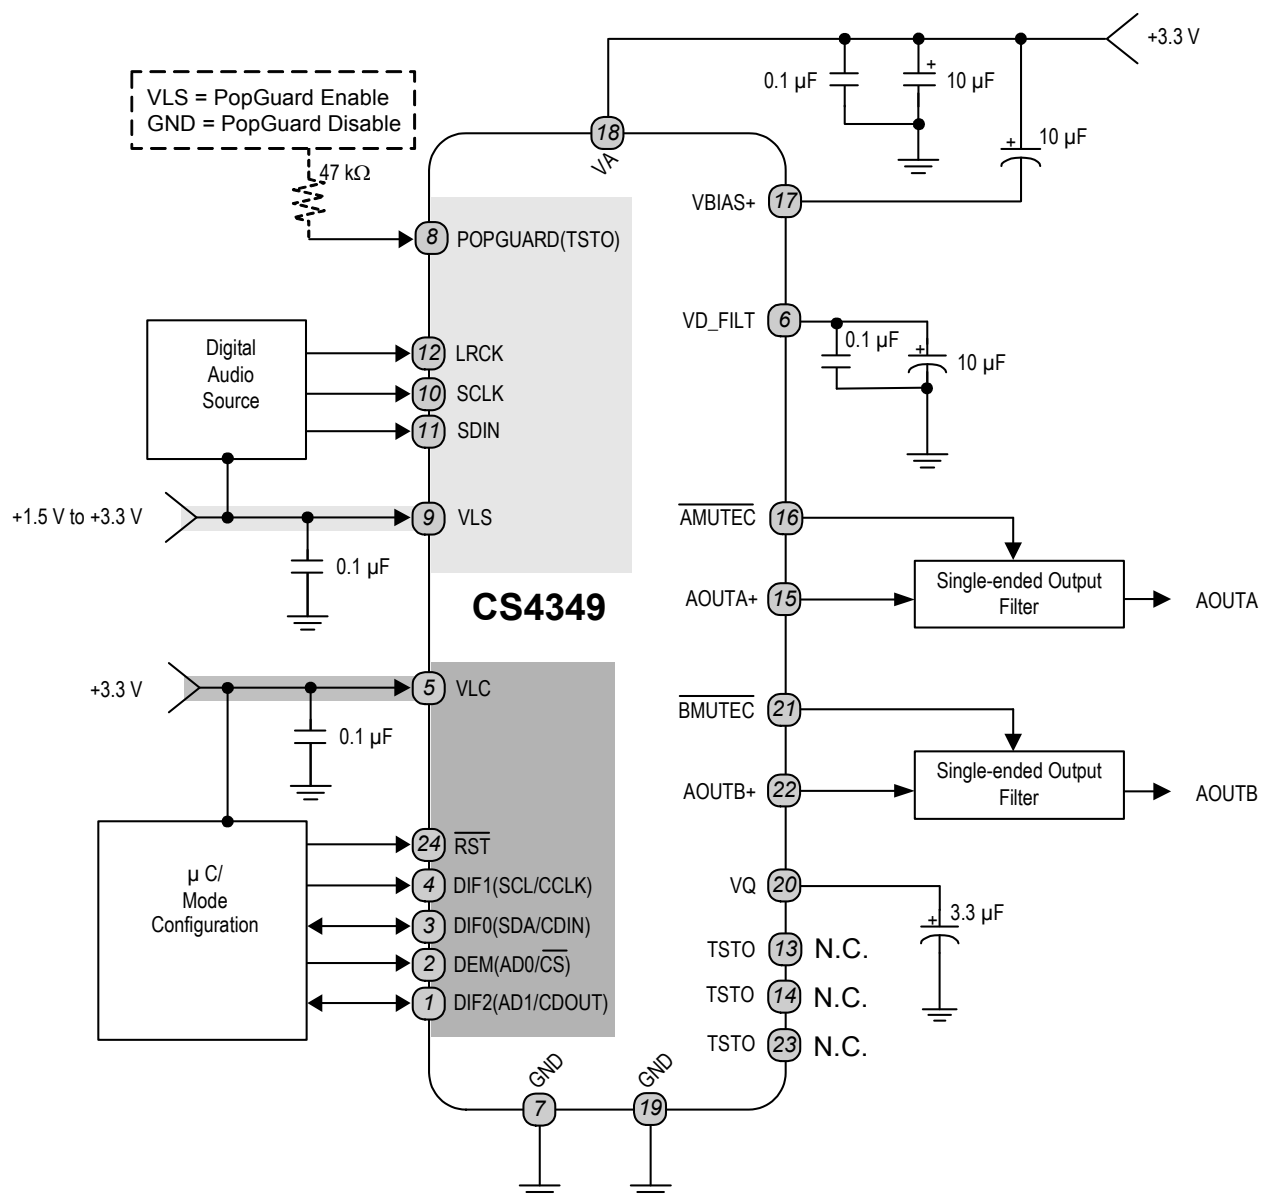

Figure 10. Typical Connection Diagram
16. Valid with the recommended capacitor values on VFILT, VQ, and VBIAS+ as shown in the typical connection diagram in Figure 10.
As with any high-resolution converter, the CS4349 requires careful attention to power supply and grounding arrangements if its potential performance is to be realized. Figure 10 shows the recommended power arrangements, with VA, VLC, and VLS connected to clean supplies. The use of split analog and digital ground planes is not recommended. However, if planes are split between digital ground and analog ground, the GND pins of the CS4349 should be connected to the analog ground plane.